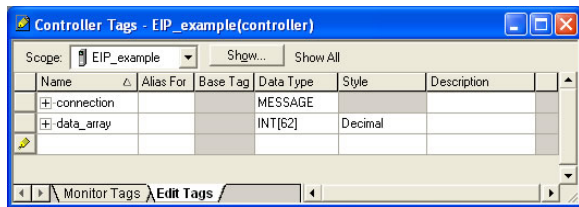

Figure 97: Create New Tags
- b) The “Controller Tags” window appears. Refer to Figure 97.